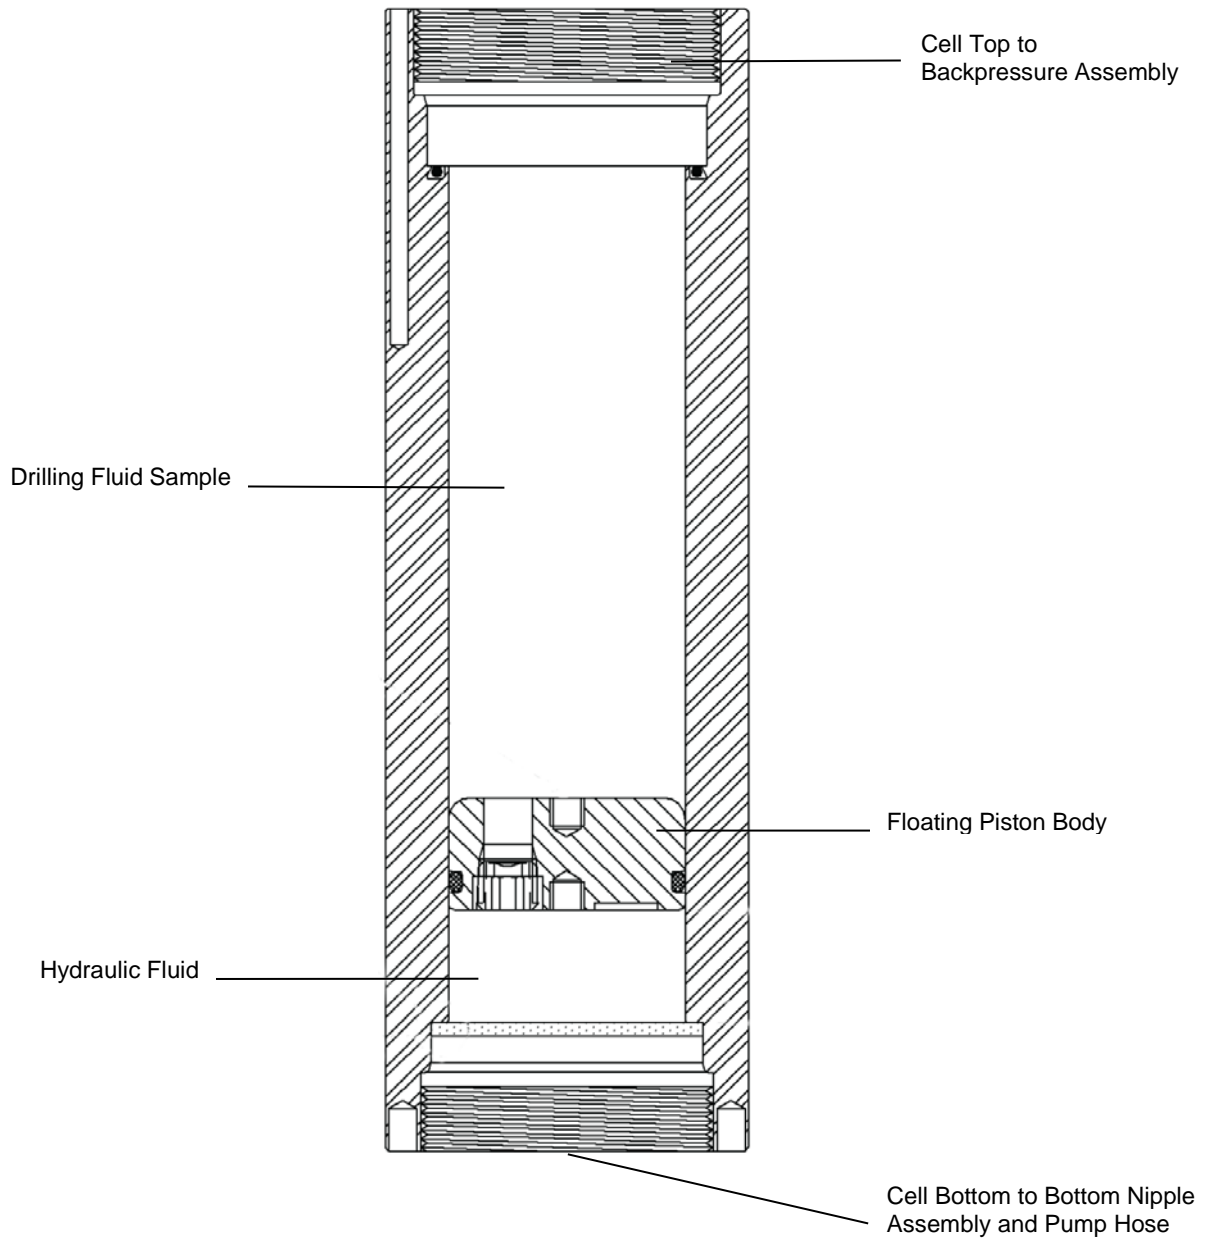

Figure 5-3 Final PPA Cell Arrangement
- Figure 5-3, a drawing that shows how the PPA cell is arranged (cell is upright)